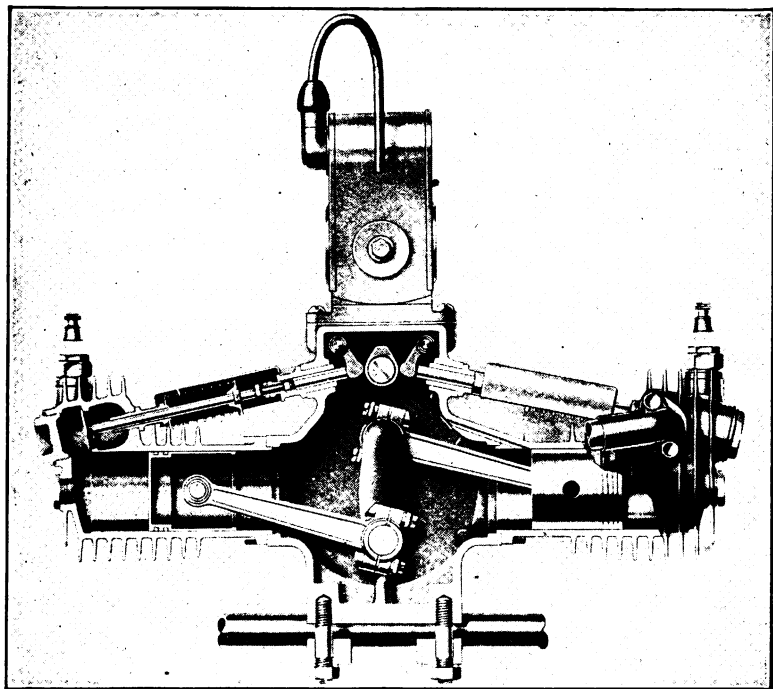

Fig. 29. Section of Indian Twin-Cylinder Opposed Engine
*Two-Cylinder Type.* In the two-cylinder field the V-type engines seemed to be supreme in 1915; but again the light-weight brothers have disturbed the trend of practice, and the two-cylinder four-cycle opposed engine is making as hard a fight for popular favor in the light-weight field as the single-cylinder two-cycle. In the Indian model, a cross-section of which is shown in Fig. 29, we have an example of this construction. It is the same general design which English makers have been able to run at 4000 r.p.m. in their light-weight machines. The crank throws are set at 180 degrees. In